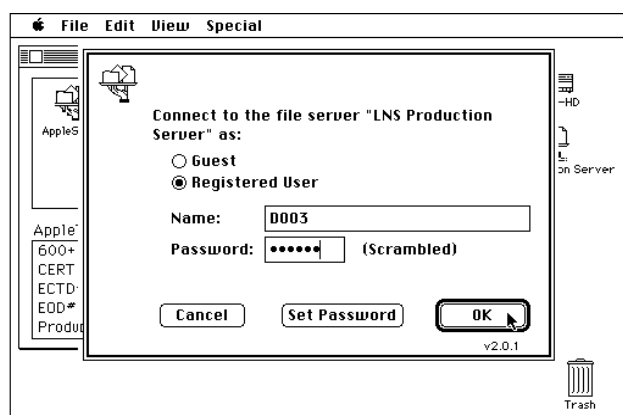

Figure 2
- 5.0 The message “Connect to the file server “LNS Production Server” as: Registered User” will appear. See Figure 2. The dyno number will be displayed in the “Name” box. Type in the correct password and select the “OK” button.